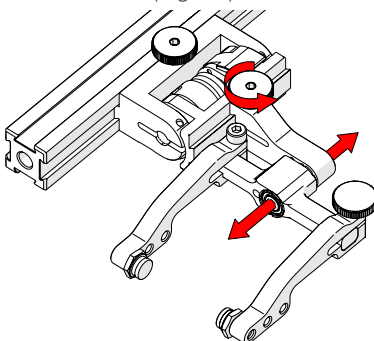

Fig. 56 - Adjust swing arm
3. Use the swing arm knob to position the swing arm (Fig. 56).